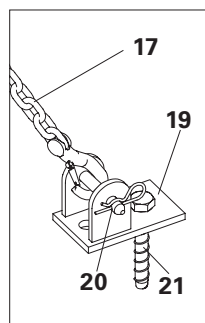

Fig. A10.04
1. Mount RS base plate (19) on the existing construction with the PERI anchor bolt 14/20 x 130 (21). Bracing angle 60°. (Fig. A10.04)
2. Attach the 3.0 kN anchor chain (17) to the 3.0 kN turnbuckle (18) and attach the 3.0 kN turnbuckle (18) to the RS base plate.
3. Tighten the turnbuckle (18) until the anchor chain is taut using pins and cotter pins (20). (Fig. A10.04)